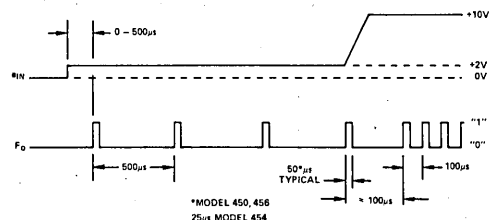

Figure 13. Timing Waveforms; Input/Output
**Step Response:** The output settling time for step input changes is a function of the final output frequency. Settling time is specified as 20μs plus 2 output pulses of the new frequency. For a 10V step input, the settling time will be 120μs. Figure 13 shows typical timing relationships between input and output for input voltages of 2V and 10V.